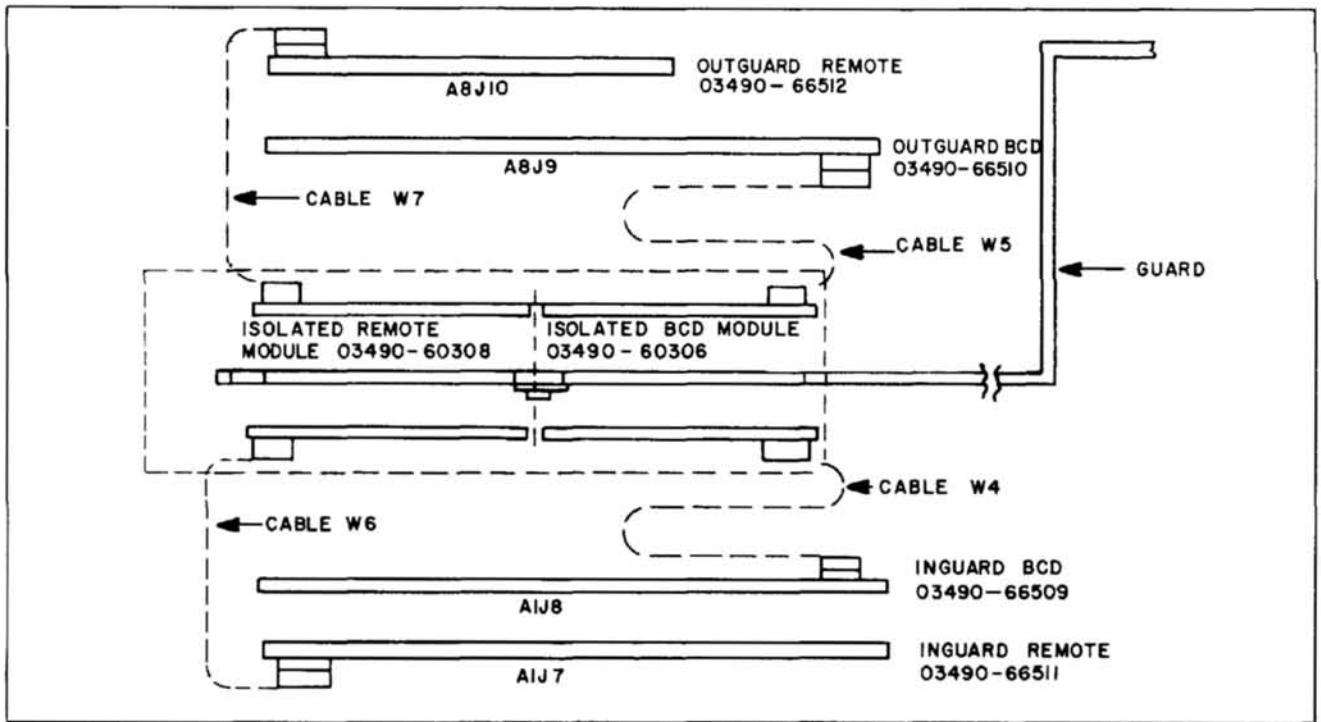

Figure 2-4. Installation of Isolated BCD Output and Remote Options.
- Install 03490-60306 Isolated BCD Module in the right opening in the instrument guard using screws provided (see Figure 2-4).
- If Isolated Remote (11122A) is not installed at this time, install cover plate 03490-04117 over the left opening in the guard. If Isolated Remote is to be installed, place the 03490-60308 Isolated Remote Module in the opening to the left of the BCD Module (see Figure 2-4).
- Insert the Isolated BCD Inguard PC Assembly 03490-66509 into Connector A1J8 and install Cable W4 between this Assembly and the inguard side of the Isolated BCD Module (see Figure 2-4).
- Insert the Isolated BCD Outguard PC Assembly 03490-66510 into Connector A8J9 and install Cable W5 between this Assembly and the outguard side of the Isolated BCD Module (see Figure 2-4).
- Install 03490-60308 Isolated Remote Module in the left opening in the instrument guard using screws provided (see Figure 2-4).
- If Isolated BCD (11121A) is not installed at this time, install cover plate 03490-04117 over the right opening in the guard. If isolated BCD is to be installed, place the 03490-60306 Isolated BCD Module in the opening to the right of the Remote Module (see Figure 2-4).
- Remove the 03490-66504 Inguard Remote Jumper Board and insert the Isolated Remote Inguard PC Assembly 03490-66511 into Connector A1J7 and install Cable W6 between this assembly and the inguard side of the Isolated Remote Module (see Figure 2-4).
W7 between this assembly and the outguard side of the Isolated Remote Module (see Figure 2-4).